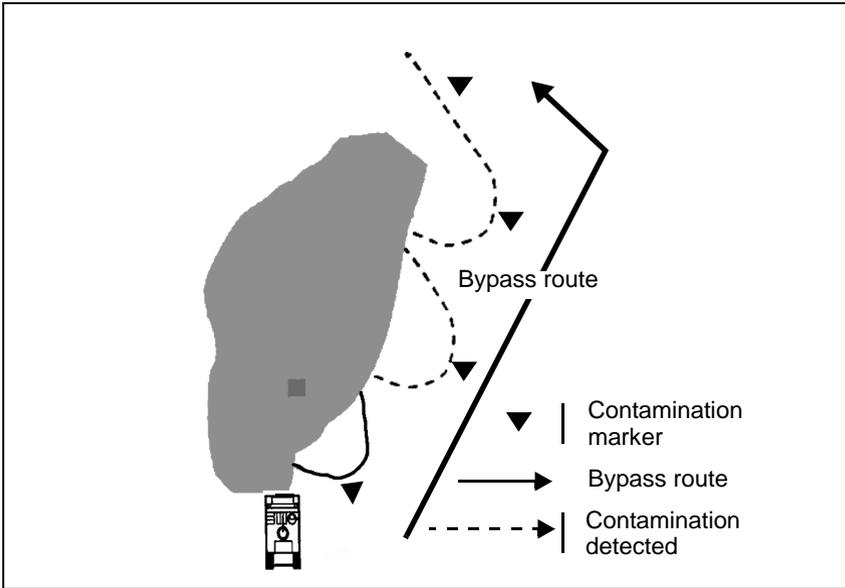

Figure 03-3-D0B13-1
(1) Determines an alternate route to the objective, before where contamination was detected, based on terrain. See *Figure 03-3-DOB13-1*.